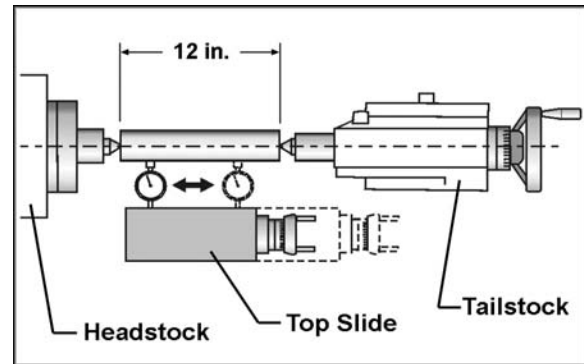

Figure 44 – Tailstock/Headstock alignment
1. Fit a 12” ground, center-drilled, steel bar between centers of the headstock and tailstock (Figure 44).